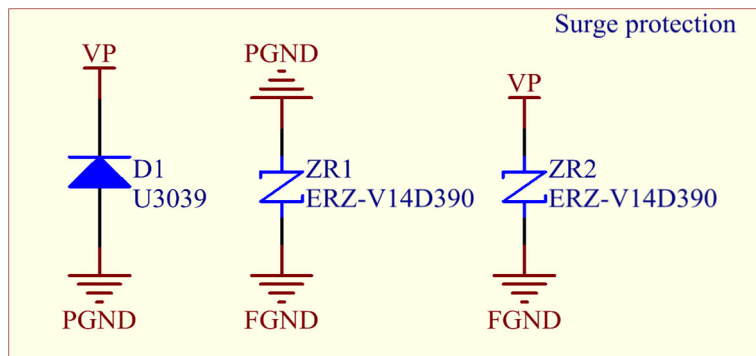

Figure 4-2 Surge Protection Circuit
- Figure 4-2 describes the external reference protection circuit against lightning surge with a surge level based on IEC61000-4-5, +/-1kV(power supply line to the power supply ground) and +/-2kV(power supply line to the earth).